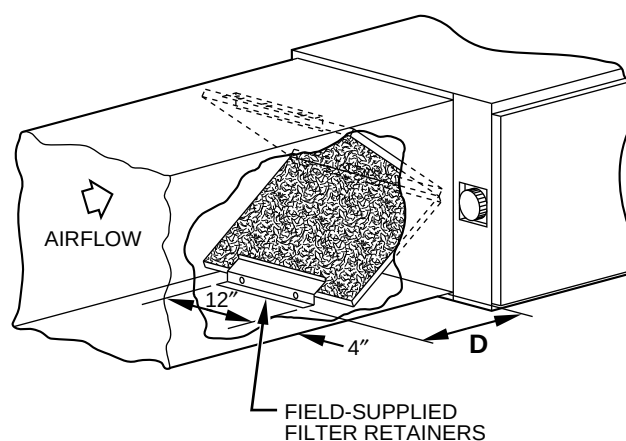
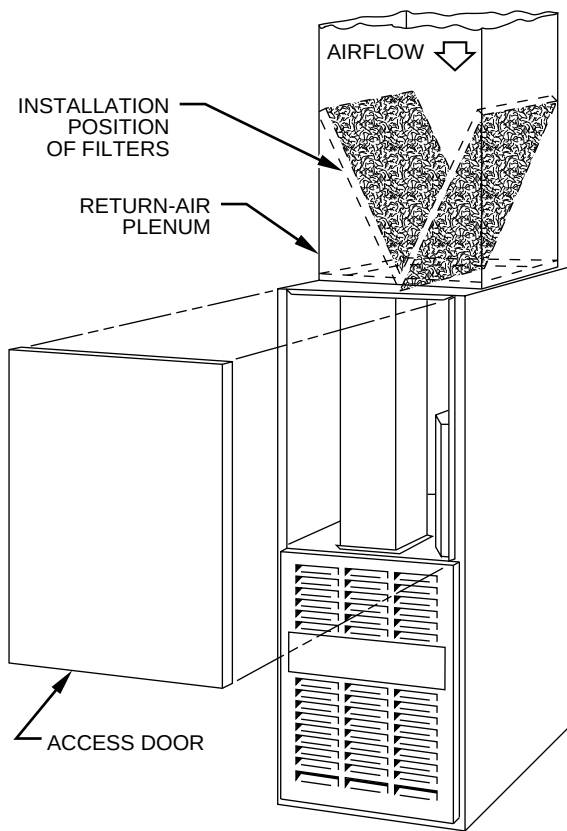

Fig. 8—Horizontal Filter Arrangement
Fig. 9—Downflow Filter Arrangement
4. Install field-supplied filter retainers as indicated in Fig. 8 and Table 3 before connecting return-air duct to furnace.
The 2 factory-supplied filters are shipped in the blower compartment. After the return-air duct has been connected to the furnace, install the filters in a V-formation inside the return-air plenum. See Fig. 8 and Table 3 for horizontal applications. Horizontal filter retainers must be field supplied. See Fig. 9 for downflow applications.